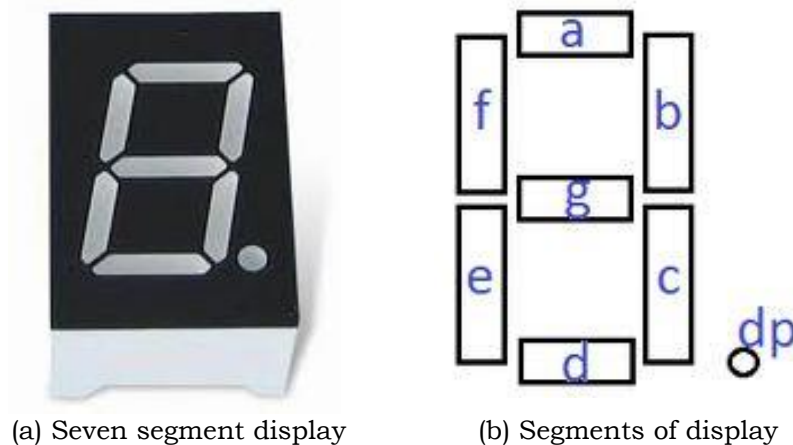

Fig. 6.53
It is a device used to display the alphanumeric characters. Fig. 6.53 shows a seven segment display. It consists of seven rectangular LEDs designated by letters a, b, c, d, e, f and g. Each LED is called a segment because it forms a part of the digit or a letter being displayed. An additional LED is used for the indication of a decimal point (DP). By activating (i.e. forward biasing) one or more LEDs of the display, we can display any digit or character such as 0, 1, 2, 3, 4, 5, 6, 7, 8, 9, A, b, C, d, E, F etc.